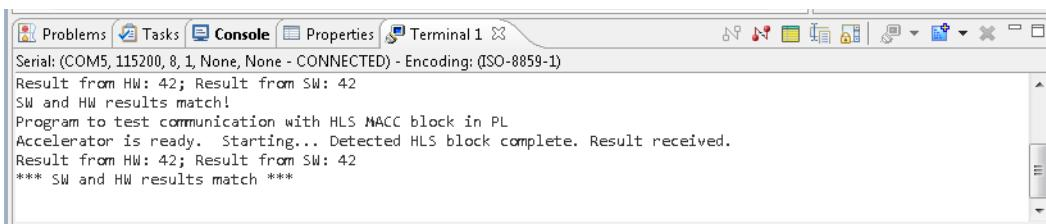

Figure 10-29: Console Output with Updated C Program
Upon success, the Terminal session looks similar to Figure 10-29.
1. From the Vivado HLS command prompt used in Lab 1, change to the lab2 directory as shown in Figure 10-29.